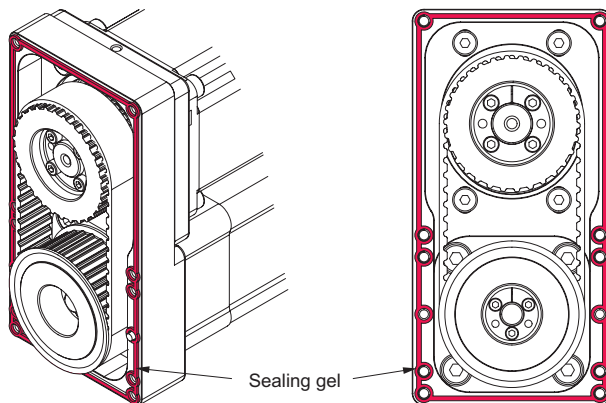

Figure 11: Sealing gel applied on the MSD housing **1**.
- Apply the sealing gel **26** to the cleaned housing of the motor side drive **1** as it is presented on the Figure 11 (the gel must be applied continuously in a closed loop on surface that comes into the direct contact with the MSD cap **20**. Sealing gel must be applied also around the holes of the MSD cap screws; it should be noted that surface shape may vary depending on the motor side drive size and type).